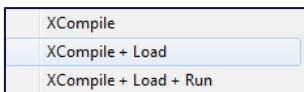

Figure 3: Right-click menu
1. To compile and load a *smartBASIC* application, right-click in the main UwTerminalX window and select **XCompile + Load** (Figure 3).